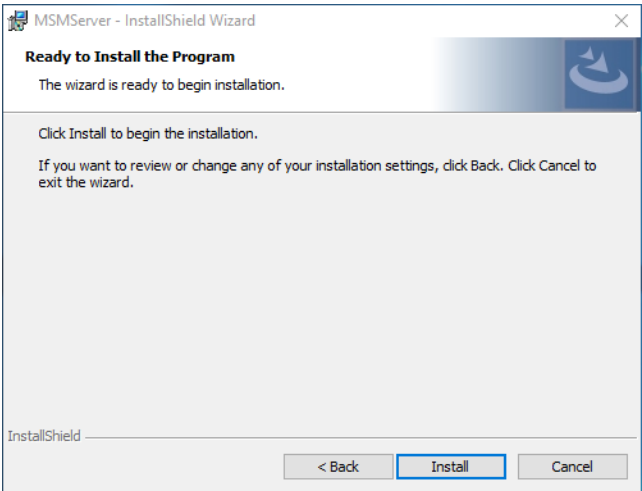

Figure 5
7. On the "Ready to Install" window, click "Install". (Figure 5)